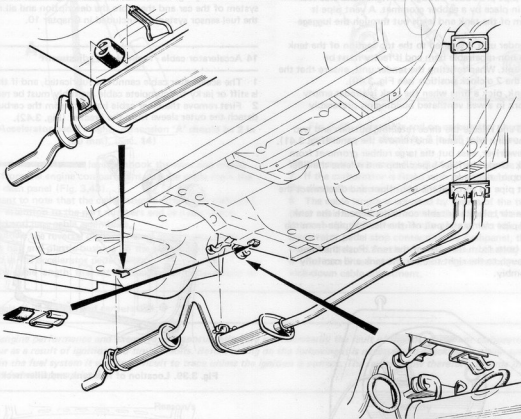

Fig. 3.37. Exhaust system attachment points – typical (Sec. 11)
- 3 The centre silencer and rear silencer/tailpipe assembly is secured to the underfloor by means of rubber rings hooked onto brackets (see Fig. 3.37).